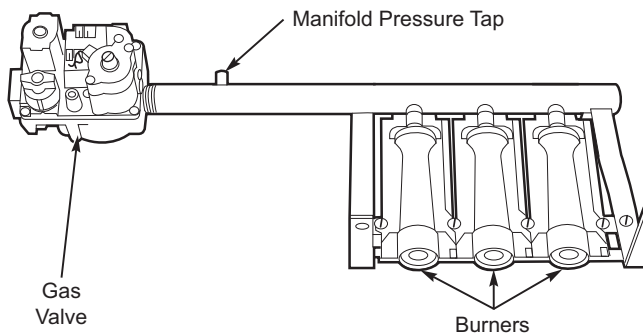

Fig. 57 — Burner Tray Details
10. Slide the burner tray out of the unit (see Fig. 57).
2. Remove manifold pressure tap plug from manifold and connect pressure gauge or manometer. (See Fig. 57.)
11. Turn off unit, remove pressure manometer and replace the manifold pressure tap plug. (See Fig. 57.)